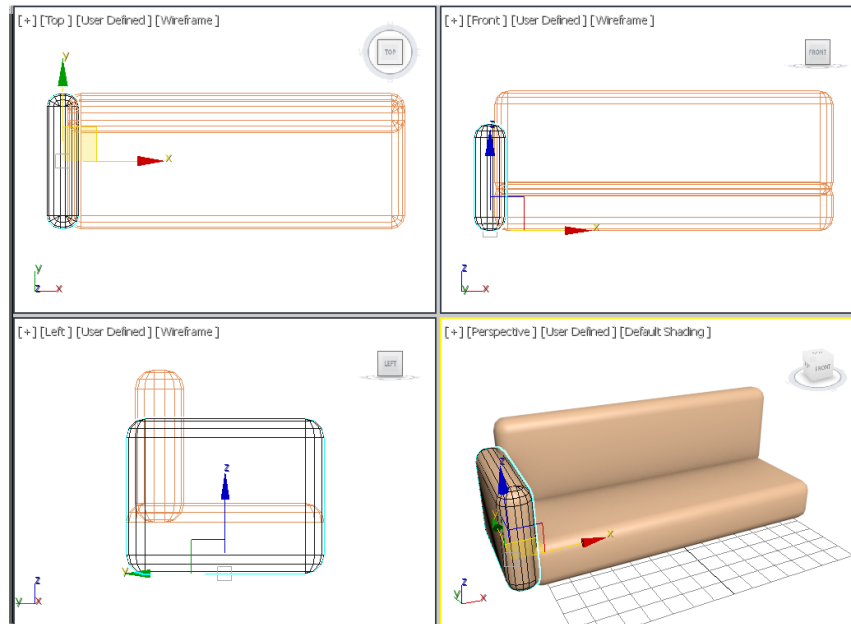

Figure 3-22 The another chamfer box displayed in the viewports
- Choose the **Create** button; another chamfer box is created, as shown in Figure 3-22.